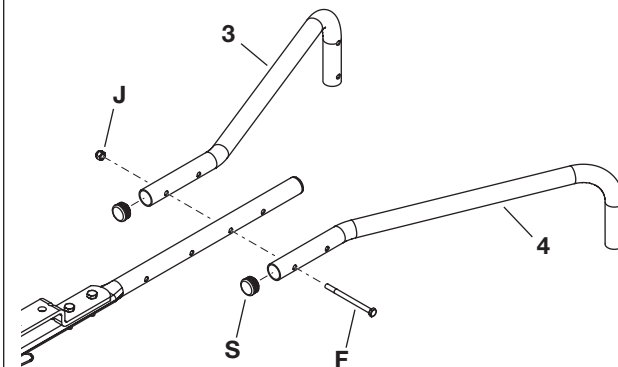

Figure 2
STEP 2: (SEE FIGURE 2)
- Attach the hitch support tubes (3), and (4) to the hitch tube using one 1/4" x 3-1/2" hex bolt (F) and 1/4" nylock nut (J). **Do not tighten completely.**